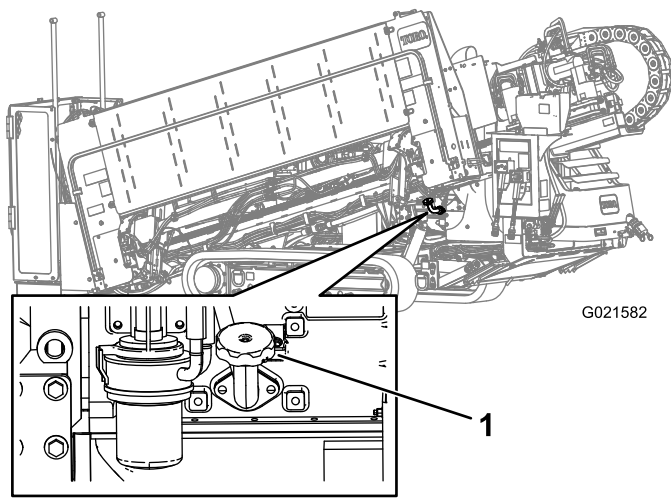

Figure 85
- A. Remove the fill cap (Figure 85) and add oil until the level reaches the High mark. **Do not overfill.**